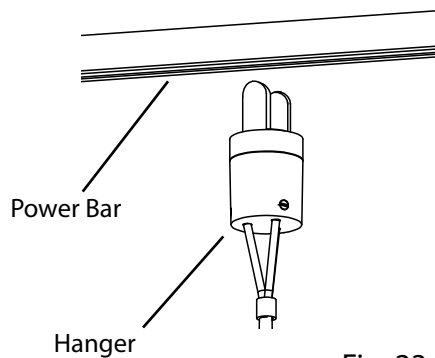
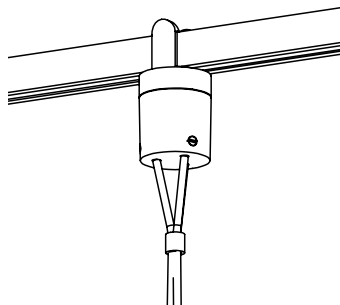

Fig. 23
Fig. 24
1. Align **Hanger** with **Power Bar** (Fig. 23) and press down firmly on the top of the Power Bar, while pressing up on the bottom of the Hanger, until the Power Bar clicks into place. (Fig. 24)